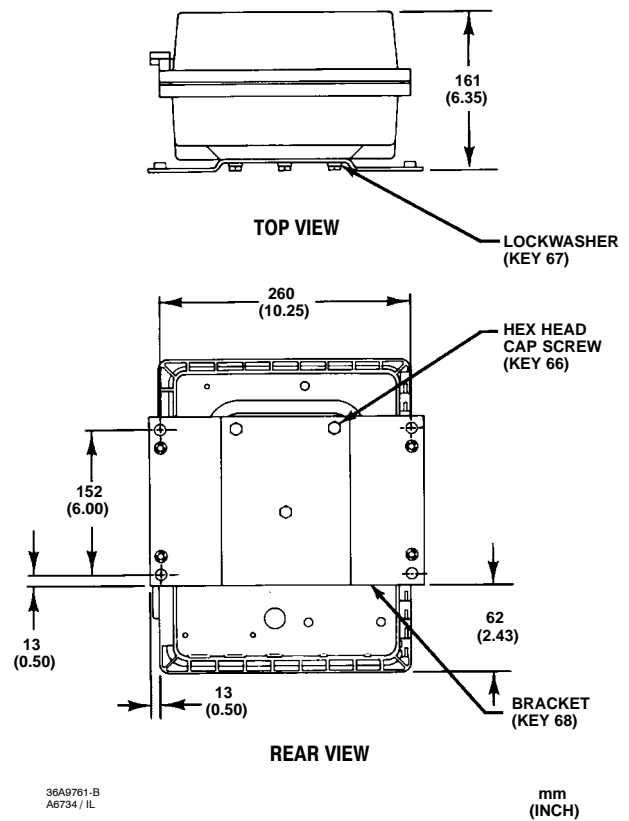

Figure 2-4. Wall Mounting
Using the dimensions in figure 2-4, drill holes in the wall to align with the four holes in the bracket (key 68). If the tubing is to run through the wall, drill a hole in the wall large enough to accept the tubing. Mount the controller to the bracket using three cap screws (key 66) and lock washers (key 67). Attach the bracket to the wall, using suitable screws or bolts.